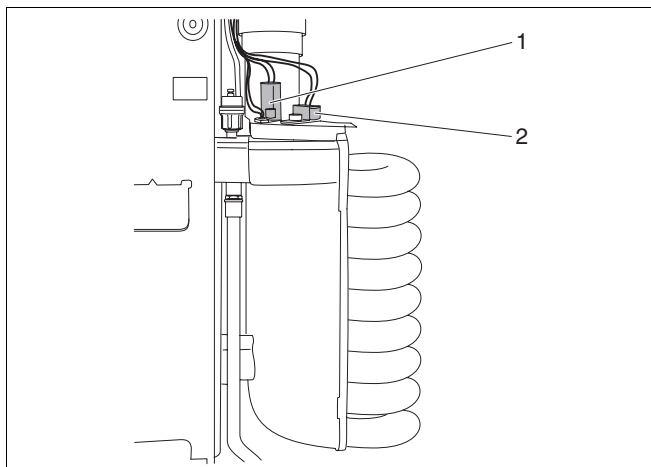

Fig. 44 Remove the hot surface ignitor and ionisation electrode
- Remove the hot surface ignitor (fig. 44, item 1) and ionisation electrode (fig. 44, item 2).